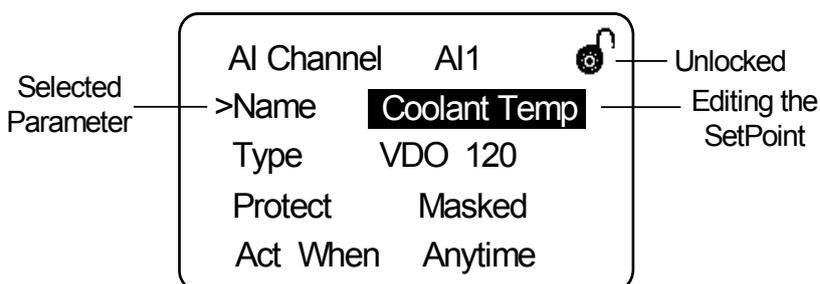

Figure 2-12
- Select “Name” set point, press MUTE key to enter editing status, see figure 2-12